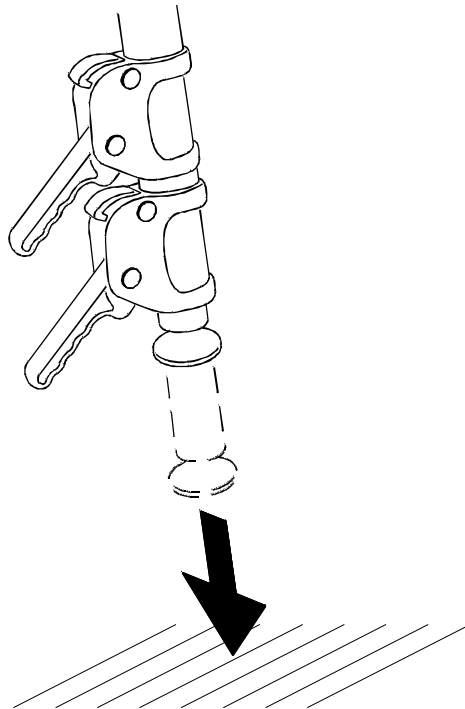

Fig 9
8. Still firmly gripping the blue handle, pull down on the foot and extend the lower tube to its fullest extent (Fig 9).
9. Make sure the locking catch engages. The side of the catch has a red coloured indicator, if this is visible then the catch is not properly engaged (Fig 9), lift the lower leg slightly and the catch will snap into place automatically.